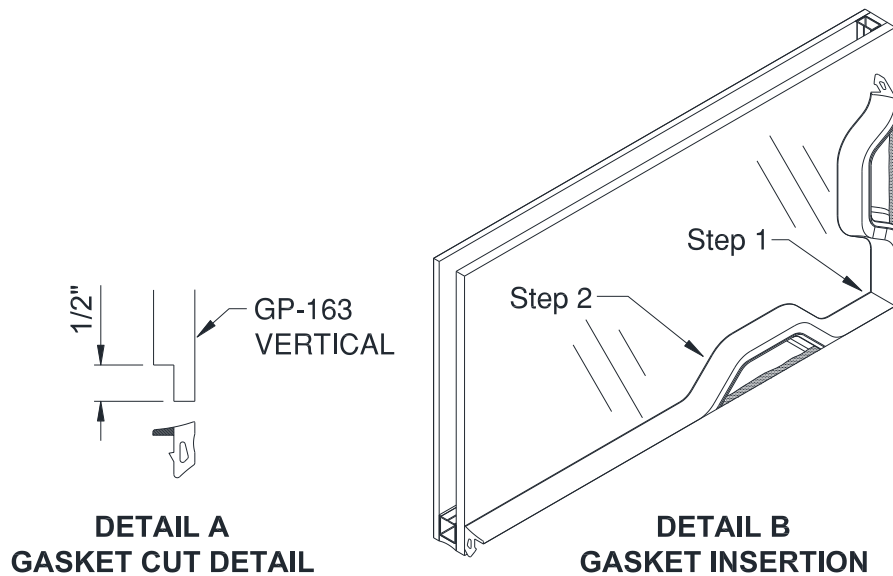

Figure 90: Wedge Gasket Notching and Installation
- 30.1 Verify the vertical Wedge Gasket is cut a minimum of 1/8" per foot plus 1" longer than the D.L.O. to provide adequate compression. Notch both ends of the gasket as shown in *Figure 90, Detail A*.
30.3.1 At the interior reglet, insert **GP-163** Wedge Gasket around the perimeter, verticals first and the horizontals second. Verticals run-through at corners. Start Gasket first in the corners and then at the middle of the glass opening and work back out toward the corners. Reference *Figure 90, Detail B*.
30.3.2 At the exterior reglet, insert **GP-113** Wedge Gasket around the perimeter, verticals first and the horizontals second. Verticals run-through at corners. Start Gasket first in the corners and then at the middle of the glass opening and work back out toward the corners. Reference *Figure 90, Detail B*.